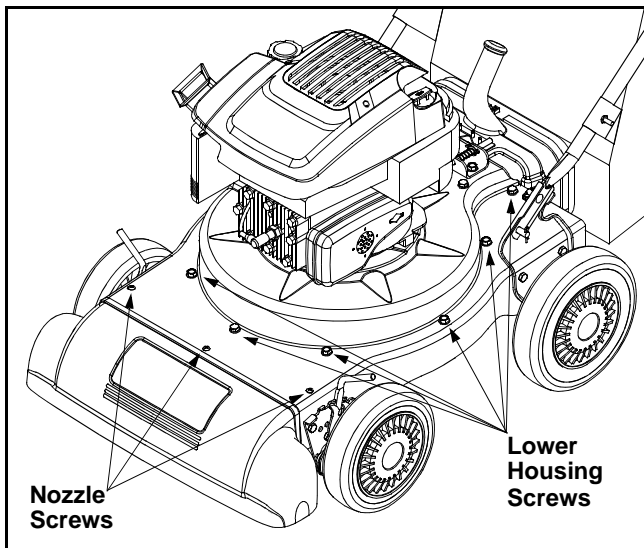

Figure 13
- Remove the three screws on the upper housing that secure the nozzle cover and the nine screws that secure the lower housing to the upper housing. See Figure 13.